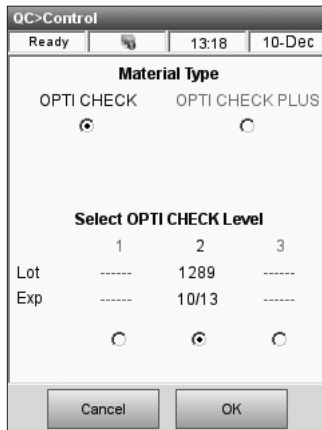

Fig. 4-14 Select QC Level
- Select the desired level (Fig. 4-14) and press